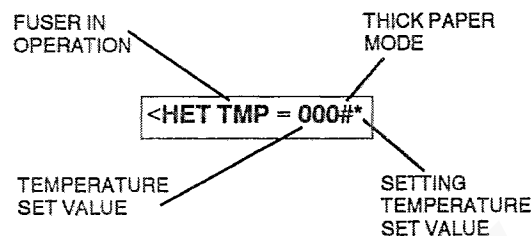

Figure 1. User Interface display
5. Switch on the printer power, while pressing the UP ▲ button on the user interface panel; the user interface will display the message "\*\*\*\*\*" followed by "<HET TMP = 000#\*" (Figure 1).